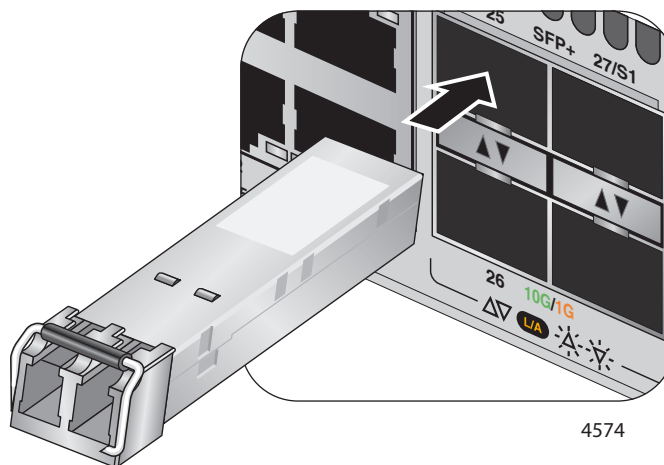

Figure 77. Installing an SFP Transceiver
3. If you are installing the transceiver in a top port, position the transceiver with the Allied Telesis label facing up. If you are installing the transceiver in a bottom port, position the transceiver with the label facing down. Refer to Figure 77.